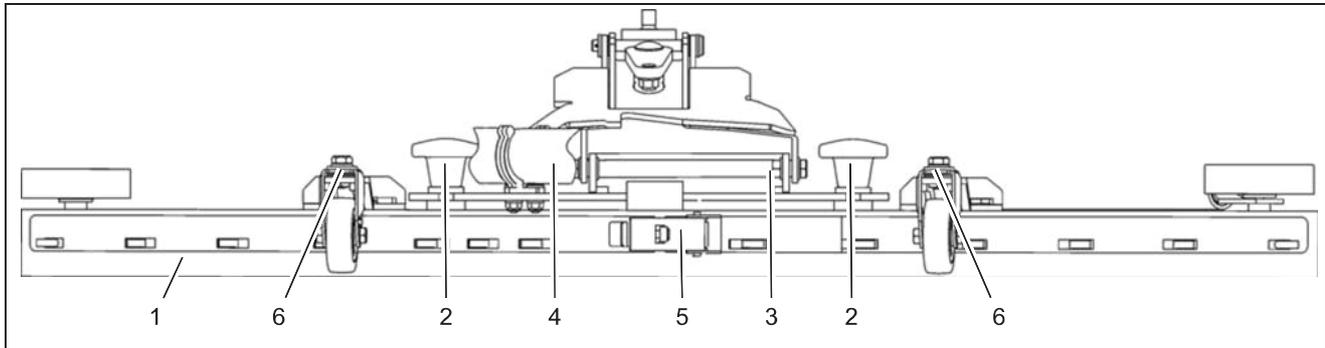

Fig.12
Check the squeegee (Fig. 12/1) daily and clean as necessary. To clean it lift the squeegee out, pull off the suction hose (Fig. 12/4), loosen the two star-shaped knobs (Fig. 12/2) and remove the squeegee.
Check the inner and outer sealing strips on the squeegee (Fig. 12/1) weekly for signs of wear. The sealing strips can be used fourfold by turning them.
3. Unlock the fastening device (Fig. 12/5) and remove the outer sealing strip. Turn the sealing strip or install a new one, as necessary. Change the inner sealing strip in the same way.